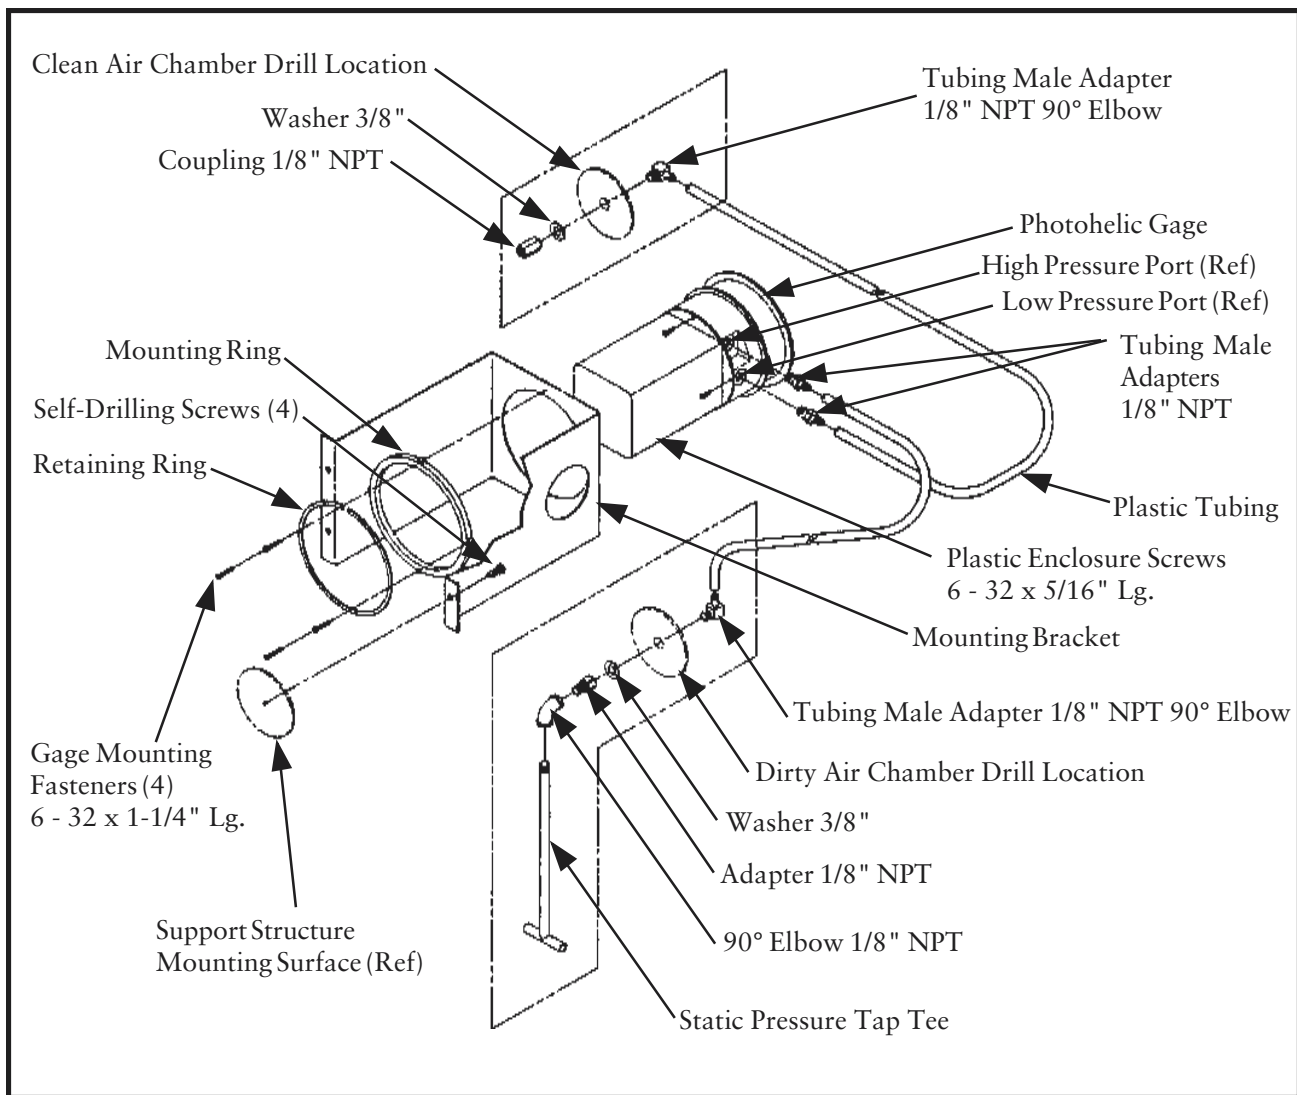

Figure 7
- Connect the tubing to the high pressure and low pressure port fittings located on the Photohelic gage. The high pressure port tubing is attached to the pressure fitting mounted in the dirty air chamber. The low pressure port is attached to the fitting in the clean air chamber. See Figure 7, Installation of Photohelic Gage.